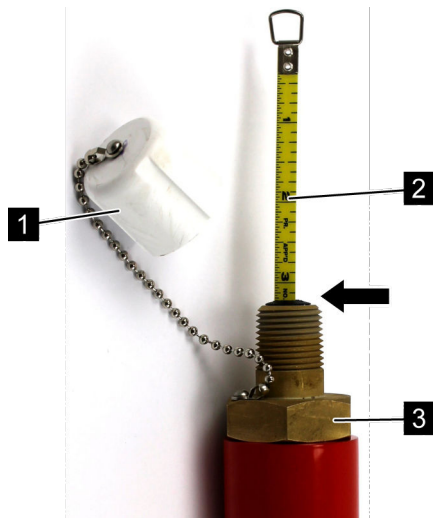

Fig. 31: Reading the fill level
- Do not unscrew the brass hexagon (Fig. 31/3) of the liquid level indicator.
1. ➤ Unscrew the plastic protective cap (Fig. 31/1).
2. ➤ Pull tape measure (Fig. 31/2) out of the liquid level indicator to the stop.
4. ➤ Read the fill level on the measuring tape above the threaded union (Fig. 31/ arrow).
5. ➤ Detach the measuring tape (Fig. 31/2) from the float with rapid hand movement, and lower it completely into the liquid level indicator.
6. ➤ Screw on the plastic protective cap (Fig. 31/1).